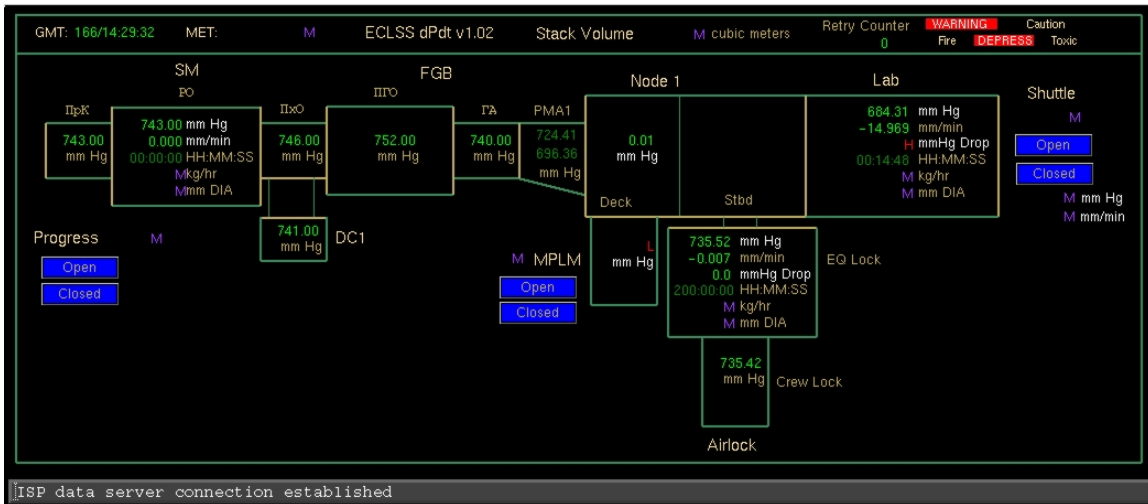

Figure 4-11. ECLSS dP/dT MSK display
This page presents a schematic (see Figure 4-11) of the ISS. The pressure data for each of the elements is shown. The pressure change data for the Service Module (SM), the U.S. Lab, and the equipment lock is also shown. As with the other displays, this pressure data can be used to determine crew progress through prebreathe, depress, or repress activities.